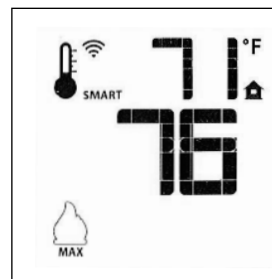

Figure 59. Smart Mode
- To activate this function, press the Thermostat Key until the word “SMART” appears to the right of the thermometer bulb icon. Fig. 59.